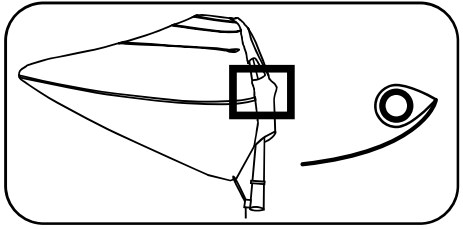

Figure 2: Slide the mast in above the foot batten.
b) Slide your mast into the luff sleeve, making sure the mast sits above the foot batten (figure 2). **Do not apply any outhaul.**